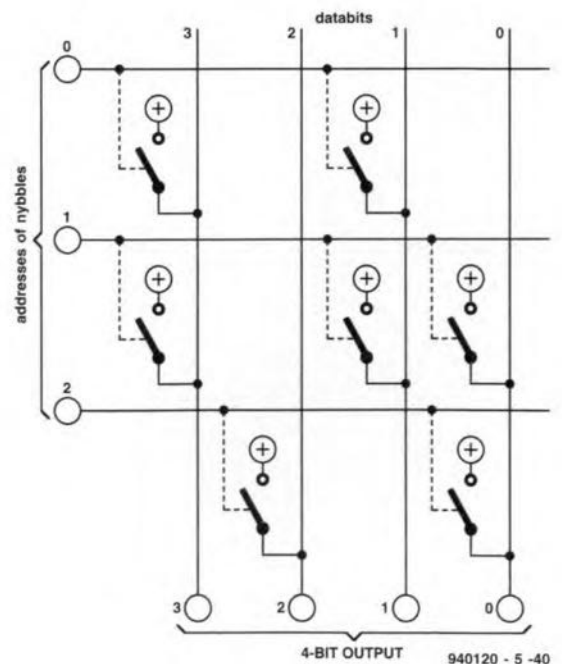

Fig. 40
With so many bits to store, it is essential for them to be organized in a systematic way and for us to have some means of accessing the particular bit or group of bits that we require. One of the ways in which this is done is shown in Fig. 40. The bits are organized into groups of four, so that one group represents a 4-bit binary number or code, known as a *nybble*. We have restricted the size of the group to four bits to make the diagram simpler. Although some ROMs do, in fact, access the bits in fours, it is more usual for them to be stored in groups of eight, known as *bytes*. In Fig. 40, there are four data lines (numbered 0 to 3), one for each of the bits in the nybble. There are three address lines (numbered 0 to 2), one for each of the nybbles stored in this ROM. Thus, the *organization* of the memory section of this very simple ROM is three nybbles, each of four bits. This makes a total of 12 memory units, or memory *cells*. The data for each nybble is stored in four cells.
To follow how data is read from the ROM, suppose we want to read the data stored at address 1. The address inputs are set to 01, and the decoder makes address line 1 go high. This address line has the control inputs of three voltage-controlled switches connected to it as shown in Fig. 40. All three switches are closed when address line 1 is made high. This connects data lines 0, 1 and 3 to the positive supply rail. Data line 2 has no switch, so it is not connected to a data line. The result is that the output of the ROM becomes 1011, which is the data stored at address 1.
1. What data is stored in nibble 2 in Fig. 40?
2. Design an address decoder for the ROM of Fig. 40, in which none of the address lines are made high when the input is 11.